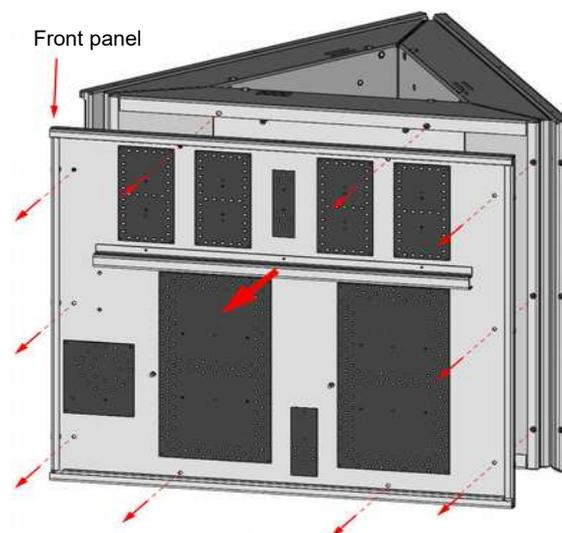

Fig. 3.5: Fixing screws of the front panel
6. Remove the screws that fix the front panel indicated in Fig. 3.5 and repeat the operation for all the available front panels.